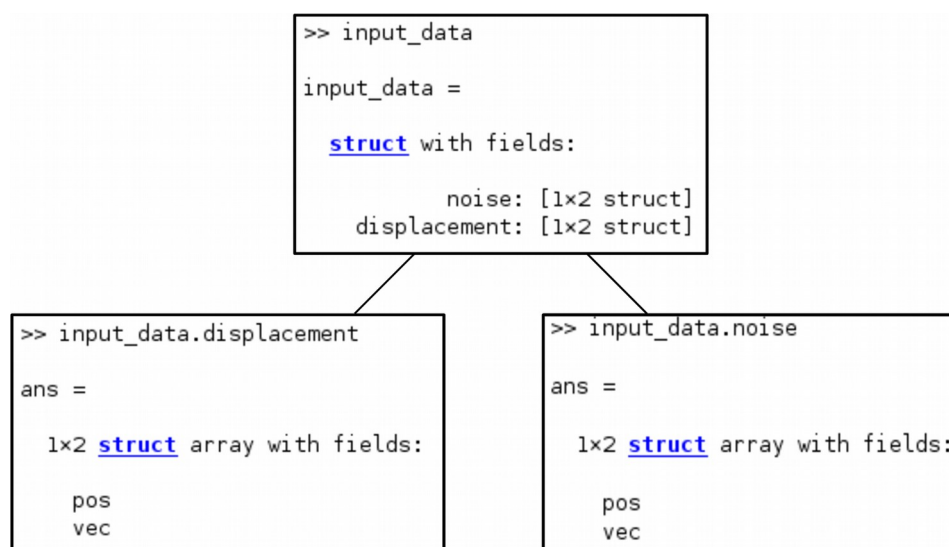

Figure 5. The structure of the input data.
- An input file containing measured gel displacements is required. Optionally, a sample of the measurement noise can also be provided for use with Bayesian regularization. The input file must contain a MATLAB structure with a defined format that is shown in Figure 5. An exemplary input file is provided with '**input_data.mat**' in the 'test_data' folder.